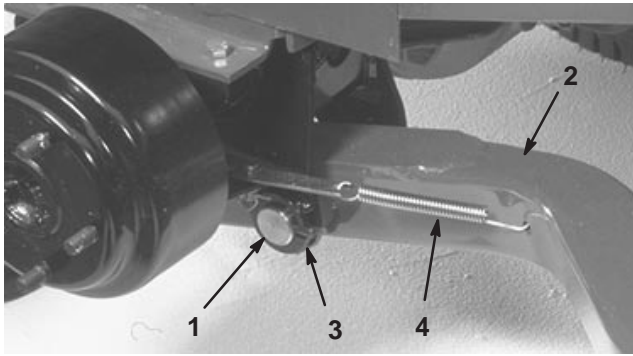

Figure 3
4. Mount a lift arm to the pivot bracket with a pivot pin and cotter pin (5/32 x 1-3/4 in.) (Fig. 3). Mount the lift arm with the ball joint end positioned outward.
- Hook the brake return spring to the hole in the lift arm (Fig. 3).